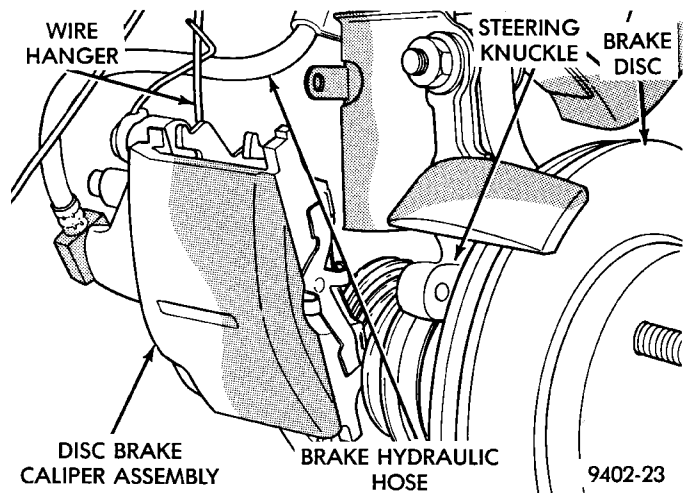

Fig. 7 Supporting Brake Caliper
(7) Support brake caliper/adaptor assembly using a wire hook, **not by the brake flex hose** (Fig. 7).